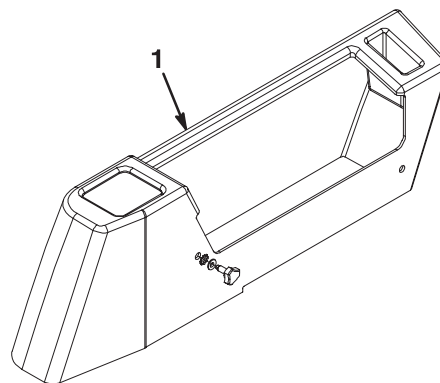

Figure 2
8. Remove the control panel cover (Fig. 2) to gain access to the fuse block area.